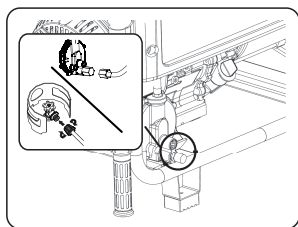

Fig 8
- Connect LPG hose to the propane tank and to the generator; Open the valve of LPG bottle (See fig 8)